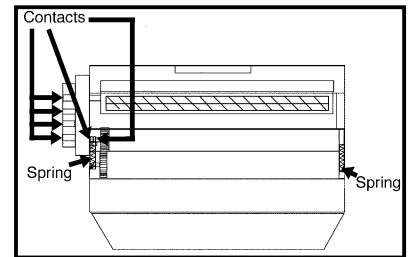
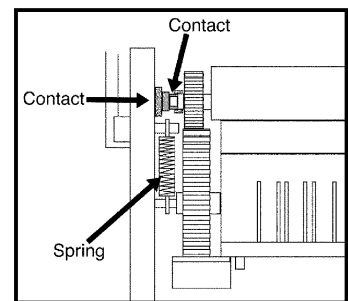

Figure 6
Figure 7
17. Use Scotchbrite® pads and alcohol to clean all contacts on toner unit and shell (Fig. 6).
18. Refill hopper with toner and recap. While reassembling toner unit in reverse order, be sure the mag roller contact touches the contact inside the shell on the left (Fig. 6). **NOTE:** Use Fig. 7 as a guide to insure proper mag roller contact placement.